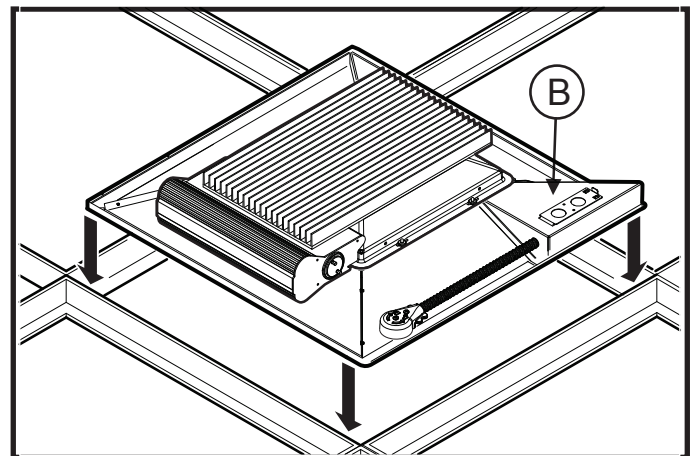

Figure 1
2. Place the LR24 into the 2' x 2' T bar ceiling panel (see figure 1). Assembly should fit tight and not need fasteners.
3. Make sure that the orientation of the sheet metal assembly junction box (See "B" on Figure 1) faces an accessible panel to install the input power.